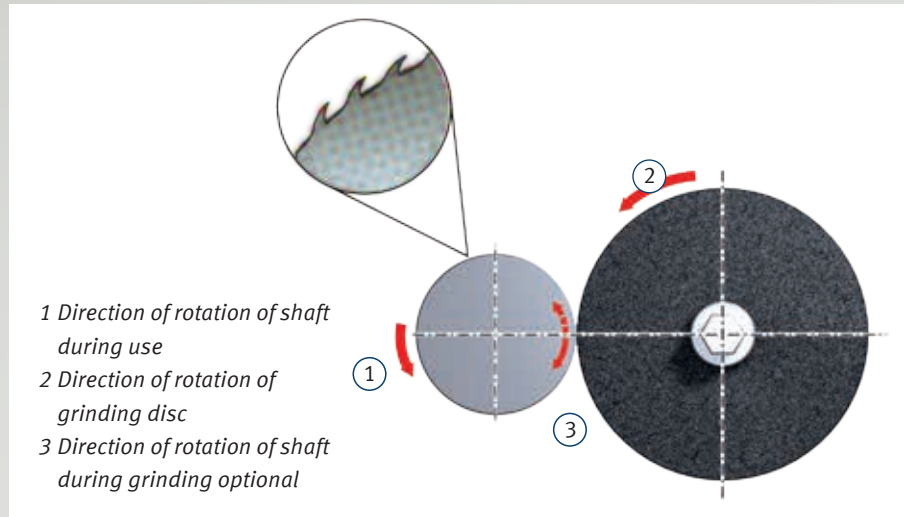

Fig. 43: Grinding a cast shaft
- Spheroidal graphite iron (GGG) has an open surface structure, and should therefore be ground to $R_z 2$ or better. Fig. 43 shows the direction of rotation of cast shafts in use. This should be the same as the direction of rotation of the grinding disc, as more wear will occur in the opposite direction.